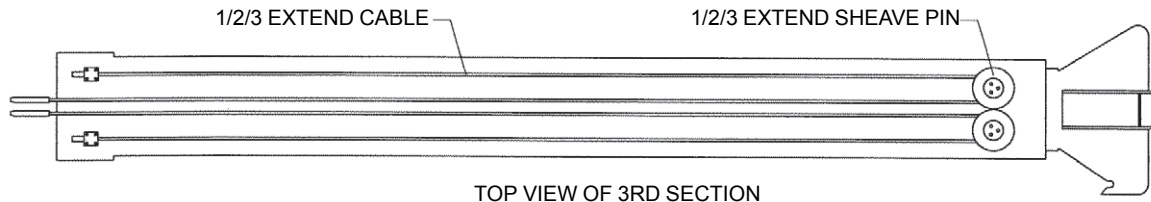

FIGURE 1
33. Lay 1/2/3 extend cables on the top of the 3rd section with the proper sheaves and pins that eventually will attach to the top plate of the 2nd section. Arrange cables per illustration (see figure 1).